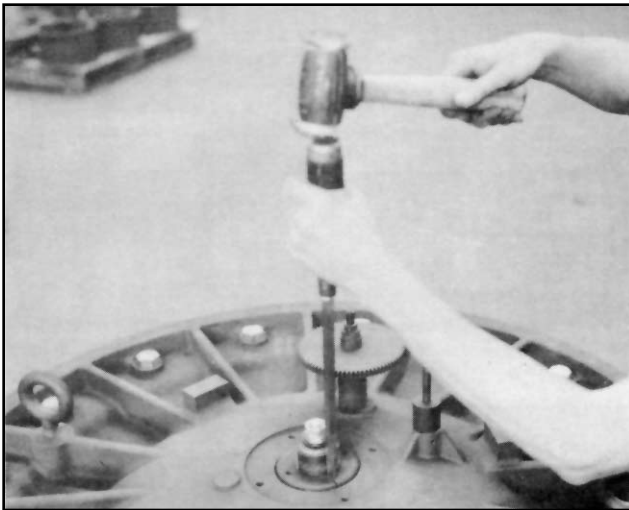

Figure 14
6. The shaft cone is removed by driving a screwdriver into the slot as shown in Figure 14.